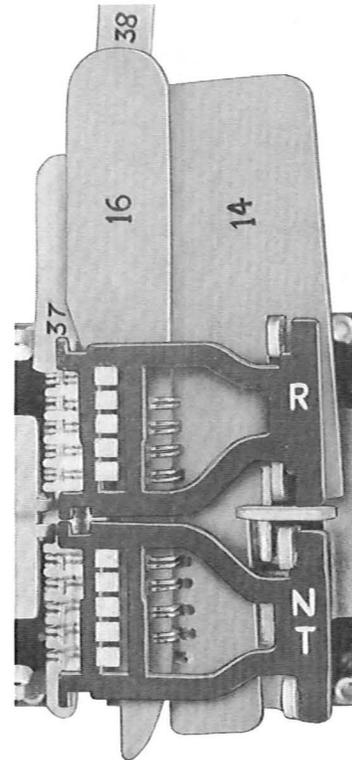

Fig. 10—Detail 16 Lifter in Place With Detail 14 Comb, Detail 37 Comb, and Detail 38 Comb Lifter
3.18 With the taper of Detail 16 lifter facing to the right, place the lifter behind the cards, inserting it between the right movable twin contacts springs and the fixed single contact springs as shown in Fig. 10. Push the lifter down until all the movable contact springs are lifted in pairs between the teeth of Detail 14 comb.